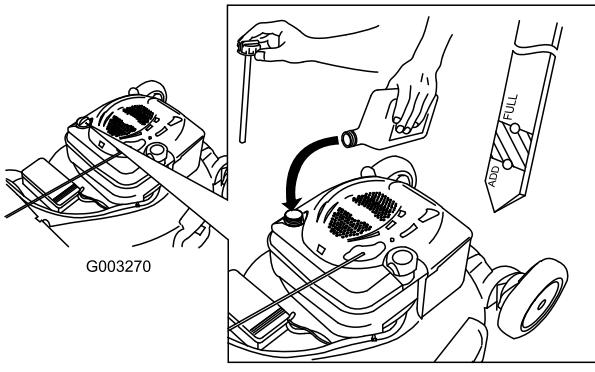

Figure 6
1. Remove the dipstick (Figure 6).
2. Slowly pour oil into the oil fill tube until the oil level reaches the Full line on the dipstick (Figure 6). **Do not overfill.** (Max. fill: 20 oz. (0.59 l), type: SAE 30W detergent oil with an API service classification of SF, SG, SH, SJ, SL, or higher.)